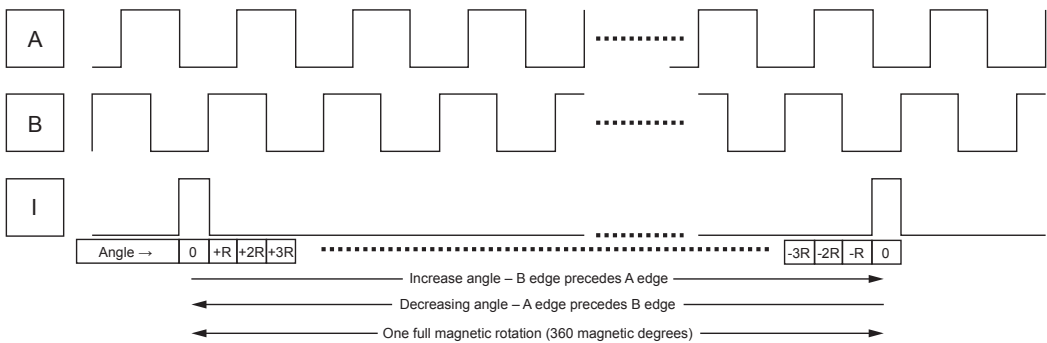

Figure 8: One Full Magnetic Revolution
The A33020 offers an incremental output mode in the form of quadrature A/B and Index outputs to emulate an optical or mechanical encoder. The A and B signals toggle with a 50% duty cycle (relative to angular distance, not necessarily time) at a frequency of 2^N cycles per magnetic revolution, giving a cycle resolution of $(360 / 2^N)$ degrees per cycle. B is offset from A by $\frac{1}{4}$ of the cycle period. The I signal is an index pulse that occurs once per revolution to mark the zero (0) angle position. One revolution is shown in Figure 8.